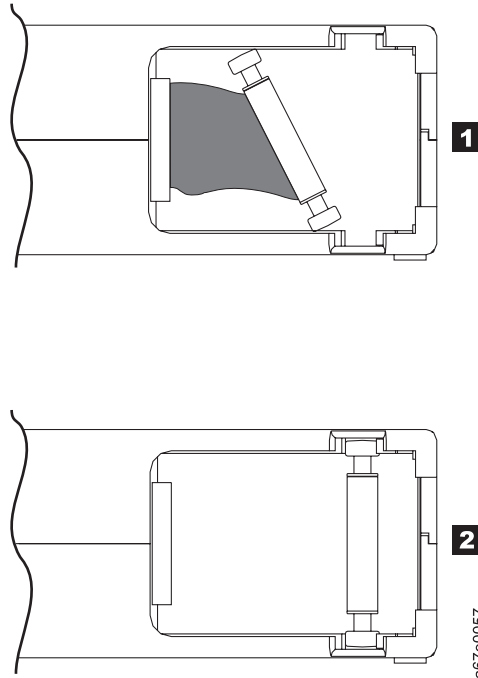

Figure 5-8. Leader pin in the incorrect and correct positions
- Check that the leader pin is properly seated (see 2 in Figure 5-8).
- Do not drop the cartridge. If the cartridge drops, slide the cartridge door back and ensure that the leader pin is properly seated in the pin-retaining spring clips (see **2** in Figure 5-8). If the leader pin has become dislodged, go to “Repositioning or Reattaching a Leader Pin” on page 5-11.
### Example: Improper Placement of Leader Pin (see Figure 5-8)
A leader pin that is improperly seated inside a cartridge can interfere with the operation of the drive. Figure 5-8 shows a leader pin in the incorrect **1** and correct **2** positions.